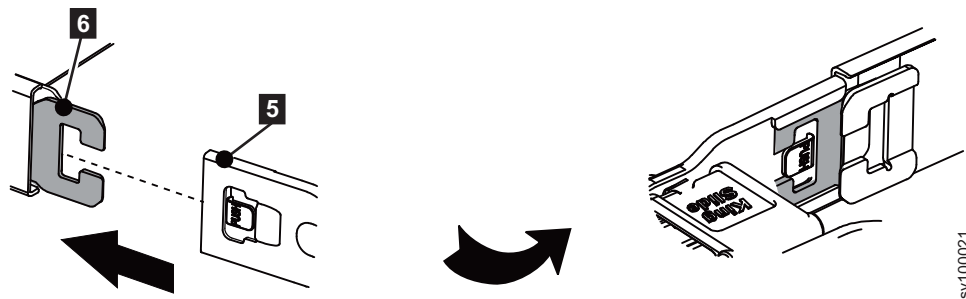

Figure 26. Install the other outer member
4. Install the opposite cable-management arm connector (**5**) to the opposite outer cable-management arm connector base (**6**). Refer to Figure 26.